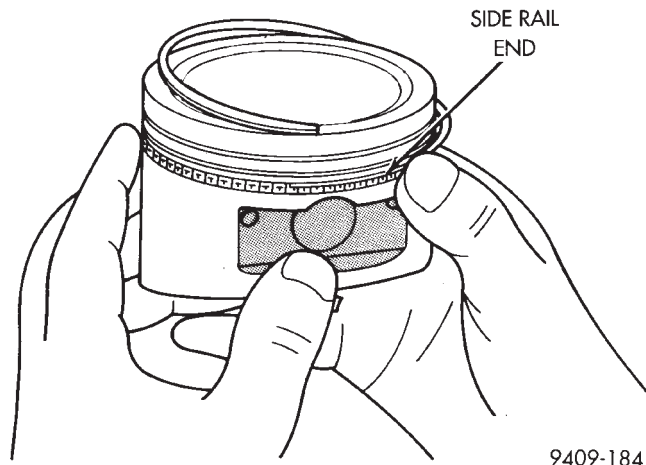
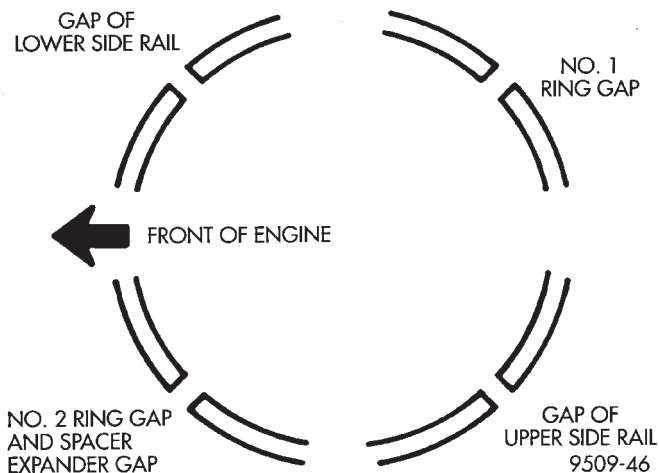

Fig. 8 Installing Side Rail
Fig. 9 Piston Ring End Gap Position
(2) Install the side rail by placing one end between the piston ring groove and the expander. Hold end firmly and press down the portion to be installed until side rail is in position. **Do not use a piston ring expander** (Fig. 8).
(3) Install upper side rail first and then the lower side rail.
(4) Install No. 2 piston ring and then No. 1 piston ring.
(5) Position piston ring end gaps as shown in (Fig. 9).
(6) Position oil ring expander gap at least 45° from the side rail gaps but **not** on the piston pin center or on the thrust direction. Staggering ring gap is important for oil control.